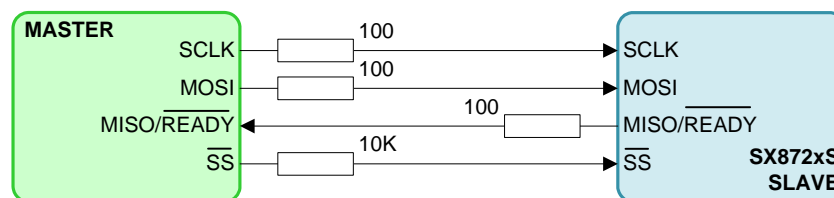

Figure 31. Resistors to improve noise immunity between master and slave
- Terminate SPI lines at the device using termination resistors as shown in **Figure 31**.